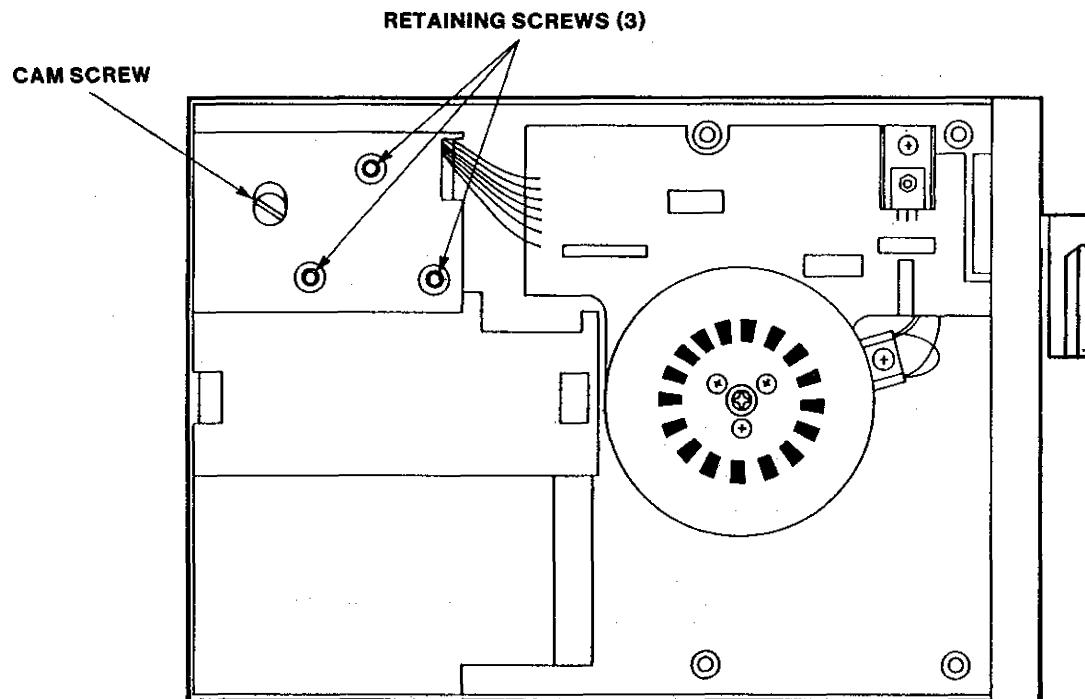

FIGURE 5-5
1. Loosen the three head carriage retaining screws one-half turn with an Allen wrench (Figure 5-5).